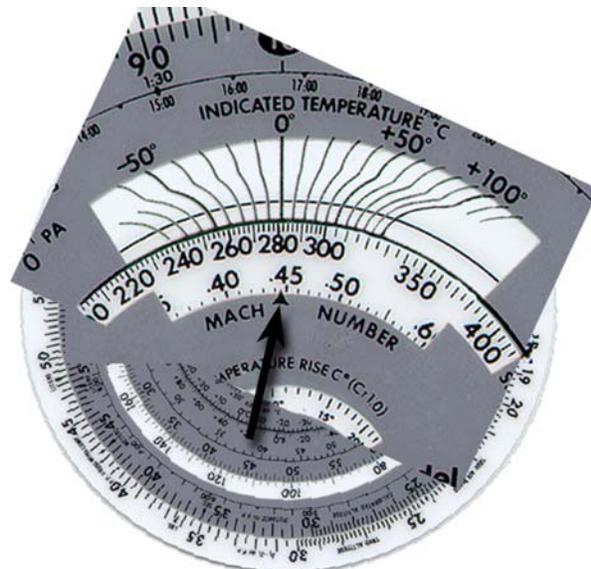

Figure 4.4-10 Mach 2
2. Go to the large window at 12 o'clock where TAS was found. Read the Mach Number directly under the TAS scale at the Mach Number index, in this case, .448 mach. Note that at a constant Mach Number the corresponding TAS is temperature dependent. (Figure 4.4-10)